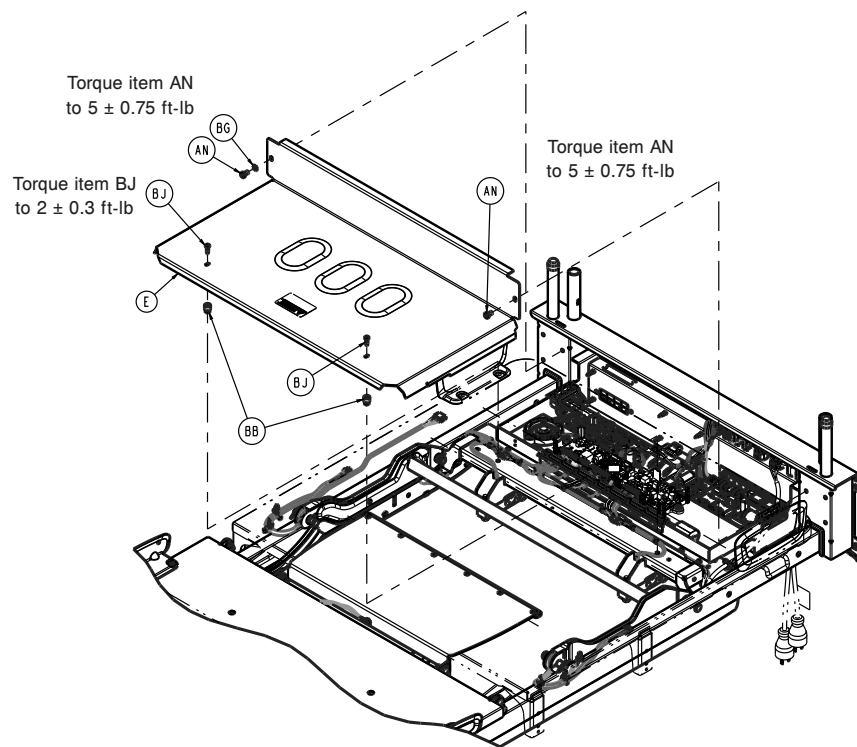

Figure 26 – Removing the cover
7. Using a T25 Torx driver, remove the two screws (BJ) that secure the litter electronics box cover (E) to the electronics box assembly (Figure 26). Save the screws.
8. Using a T30 Torx driver, remove the two screws (AN) that secure the litter electronics box cover (E) to the electronics box assembly and remove the cover (Figure 26). Save the screws and cover.
6. Using a T25 Torx driver, remove the two screws (BJ) that secure the litter electronics box cover (E) to the electronics box assembly (Figure 26). Save the screws.
7. Using a T30 Torx driver, remove the two screws (AN) that secure the litter electronics box cover (E) to the electronics box assembly (Figure 26). Save the screws and cover.
8. Using a T30 Torx driver, remove the two screws (AN) that secure the litter electronics box cover (E) to the electronics box assembly (Figure 26). Save the screws and cover.